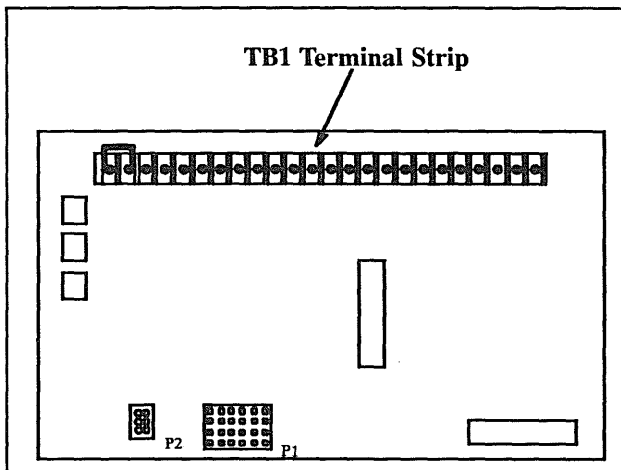

Figure 3-5. TB1 Terminal Strip on Controller circuit Board
22. **Controller TB1 Terminal Strip (on Circuit Board)** - allows connection of generator accessories such as emergency stop switch, remote start/stop switch, audio-visual alarms, etc. Crank mode selection (cyclic or continuous) is also made on the TB1 terminal strip. Location of the TB1 terminal strip on the controller circuit board is shown in Figure 3-5. Refer to Section 4. "Accessories" for additional information on connecting accessories to the TB1 terminal strip.